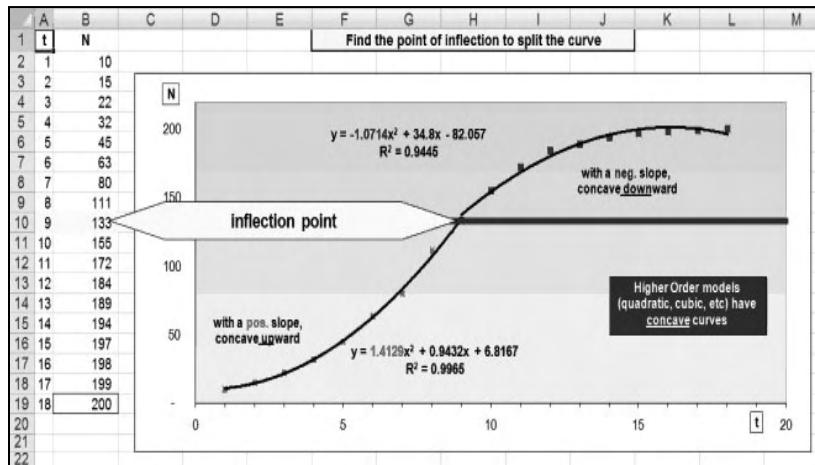

Figure: 4.24
- Figure 4.24 shows a simple, but rather primitive, solution. You locate the inflection point (by estimating visually) and split the series of data points into two sections—each one with its own polynomial curve. This solution is very unsatisfying because you need two different equations to predict a single regression line.